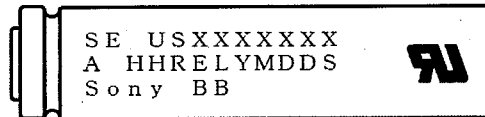

Fig.1
- 5.2 Trade Mark (Fig.1 : US x x x x x x) 登録機種名 (Fig.1 : US x x x x x x)
- 5.3 Plant (Fig.1 : A for plant code) 製造所 (Fig.1 右記図 : A)
- 5.4 Specification (Fig.1. : HH for Cell Type) 仕様 (Fig.1 : HH)
- 5.5 Lot Number (Fig.1 : YMDDS for Manufacturing Date of Cells)
ロット、セル製造年月日 (Fig.1 : YMDDS)
Lot Number (Fig.1 : YMDDS for Manufacturing Date of Cells)
- 5.6 UL Marking UL マーク (Fig.1 : Recognition Mark)
- 5.7 Korean regulation 韓国規制対応型式名 (Fig.1: Sony BB)